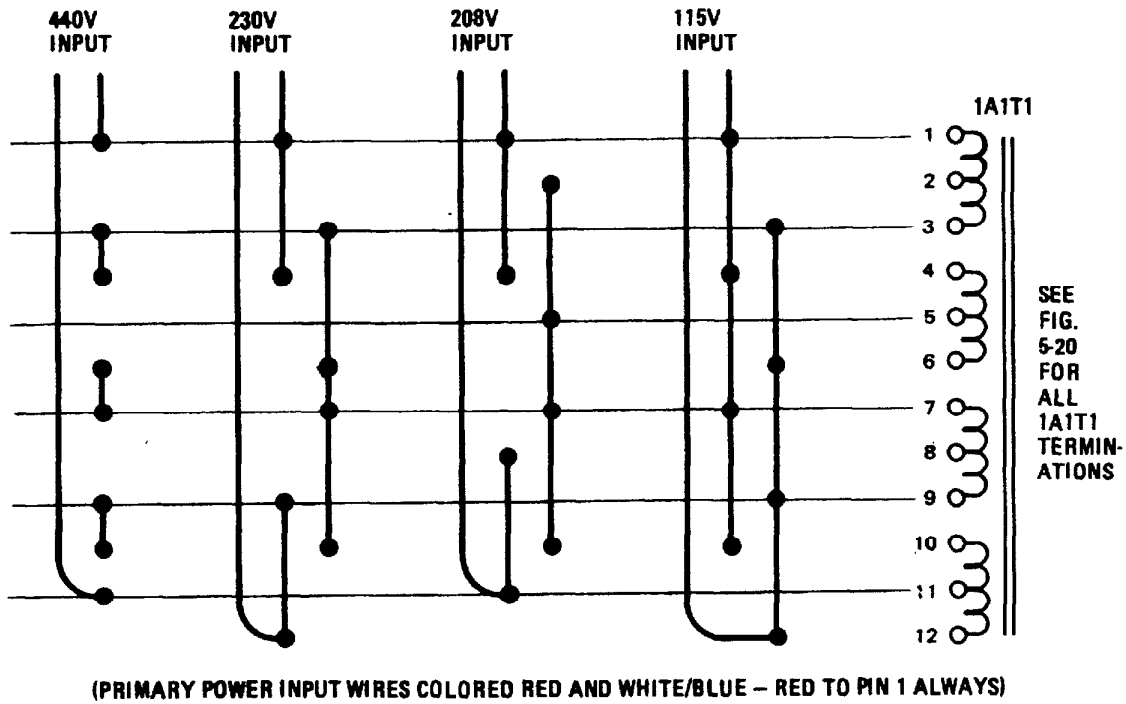

Figure 2.1. Primary Power Strapping
6. SEE FIGURE 2-1 FOR INCH/CENTIMETER CONVERSIONS.